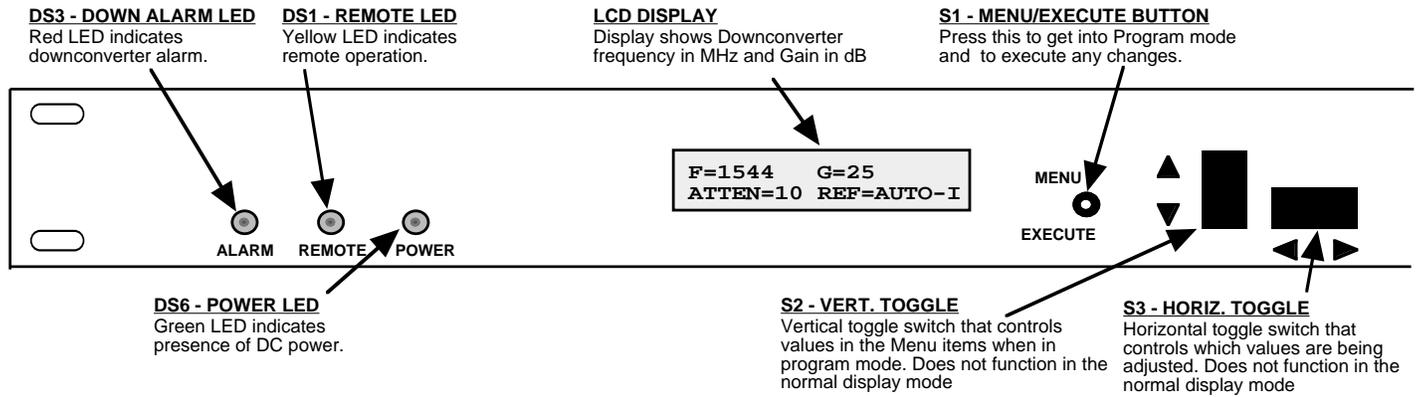

FIGURE 2.3 2016-1522# Front Panel Controls and Indicators
6. Be sure DS6 (green, DC Power) is on and DS3 (red, Alarm) is off (Figure 2.3).
Alarm indications appear on the LEDs (see figure 2.3).